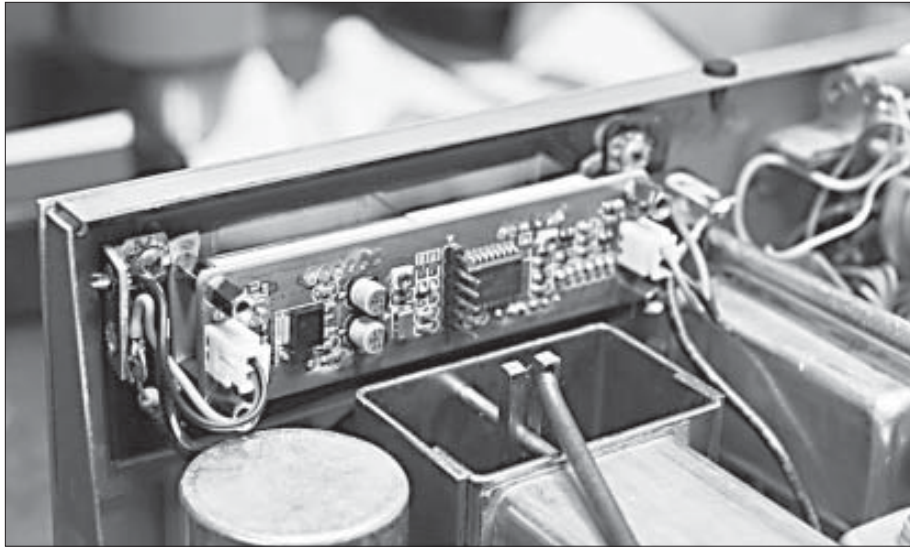

Figure 5: The counter has been temporarily mounted for marking on the Plexiglas.
9. Place the unit inside against the rear side (see **figure 5**) of the window, and position it so the display is centered in the window. Mark the location with a felt tip pen on the Plexiglas where the unit needs to be glued.